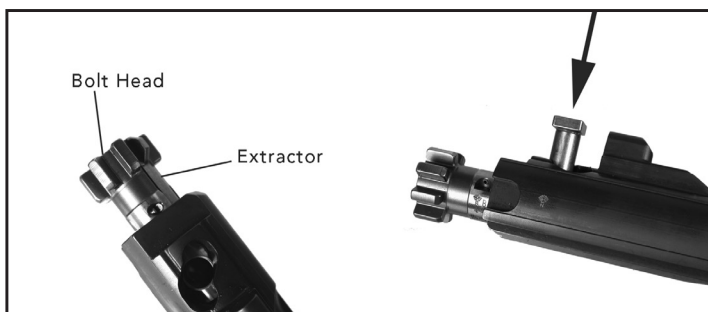

Fig. 61 – Bolt Carrier reassembly
- b. Insert the cam pin into the shaft of the bolt carrier, ensuring that the hole for the firing pin on the cam pin is aligned with the firing pin tunnels on both the bolt head and bolt carrier (Fig. 61).